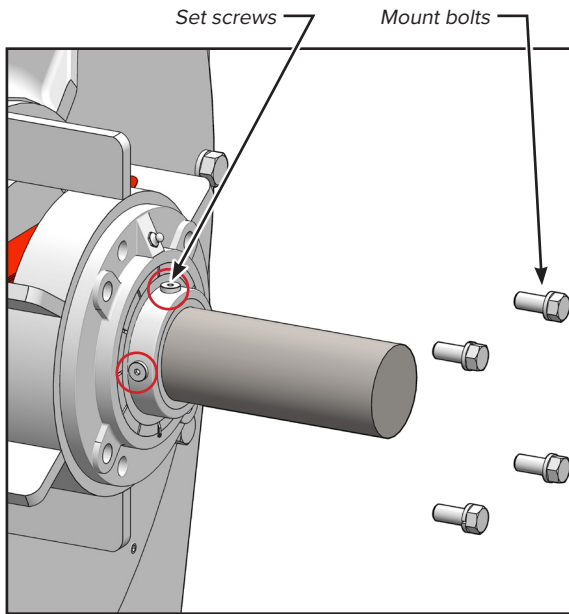

FIGURE 10
- 5. Loosen both setscrews (figure 10).
- 6. Remove bearing mount bolts (figure 10).
- 12. Tighten mount bolts alternately drawing bearing firmly into bearing support recess (figure 10).
- 13. Tighten both set screws (figure 10).